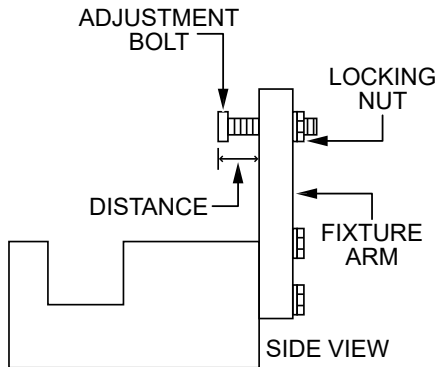

Figure 83. Trowel Arm Adjustment Tool (Side View)
Figure 83 illustrates a **trowel arm adjustment tool**. As a trowel arm is locked into the adjustment tool, the trowel arm bolt is adjusted to where it contacts a stop on the fixture. This will consistently adjust all of the trowel arms, keeping the finisher as flat and evenly pitched as possible.
3. Adjust the fixture adjustment bolt distance shown in Figure 83 to 0.15 in. (3.81 mm).